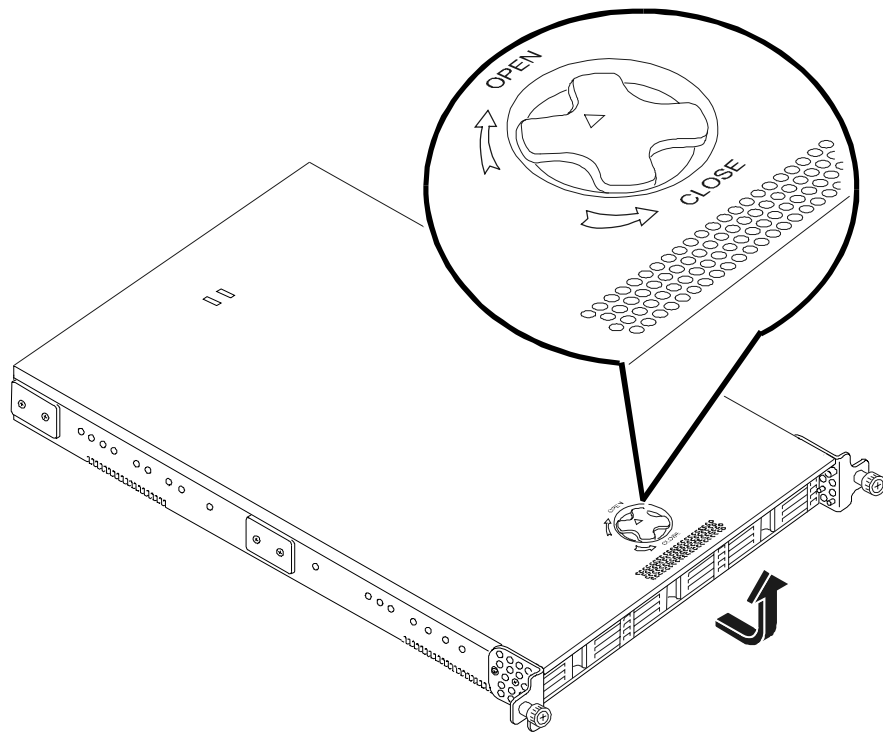

Figure 2-2. Removing the Top Cover
4. Release the top cover by turning the knob at the front of the chassis to "Open" position (clockwise direction). See Figure 2-2.
5. Ensure the knob is turned to the "Open" position (clockwise position). See Figure 2-2.